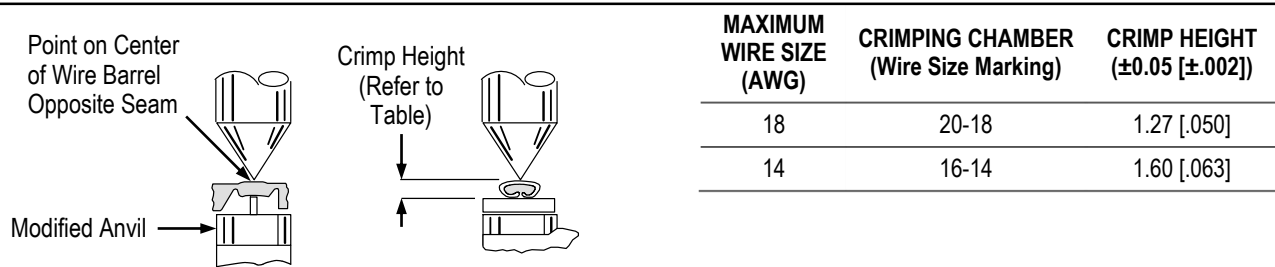

Figure 4
This tool is provided with a crimp adjustment feature. Initially, the crimp height should be verified as specified in Figure 4. Refer to Section 6, Crimp Height Inspection, and Section 7, RATCHET (Crimp Height) Adjustment, to verify crimp height before using the tool to crimp desired contacts and wire sizes.
- Refer to Figure 4 and select a wire (maximum size) for each crimp section listed.
- Using a crimp height comparator, measure the wire barrel crimp height as shown in Figure 4. If the crimp height conforms to that shown in the table, the tool is considered dimensionally correct. If not, the tool must be adjusted. Refer to Section 7, RATCHET ADJUSTMENT.